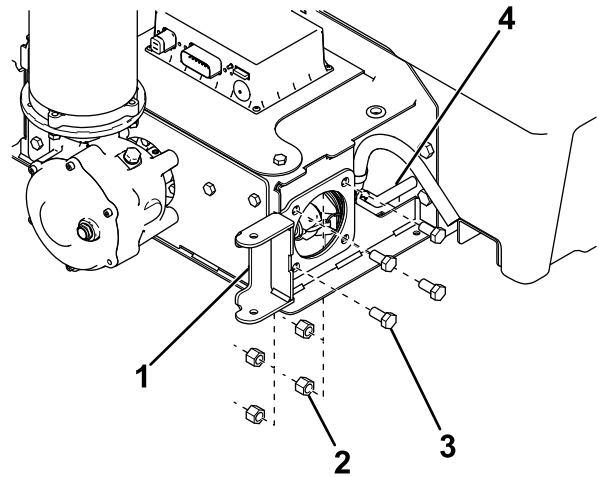

Figure 24
1. For auger spreaders, slide 1 of the edge covers onto the opening in the auger assembly as shown in Figure 24.
2. Remove and discard the 4 bolts and nuts securing the right spinner-assembly pin lock to the auger or pintle chain assembly (Figure 24). Do not discard the spinner-assembly pin lock.